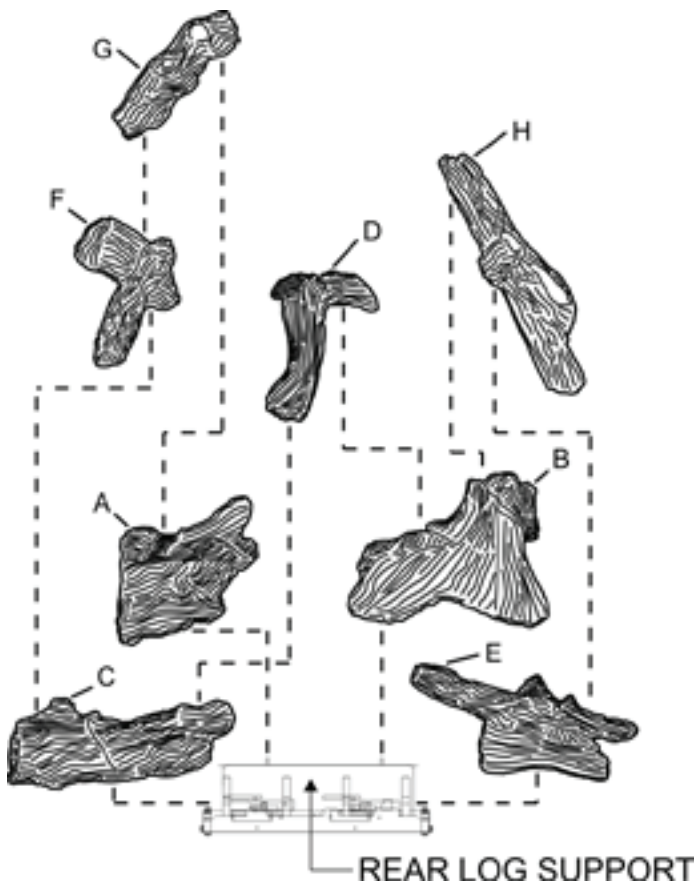

Figure 1
Refer to Figure 1 for the following warning.
**ATTENTION:** Do not use Figure 1 to order replacement logs. Refer to Log Identification LS18CD on Page 5 log to order logs for your appropriate model number.